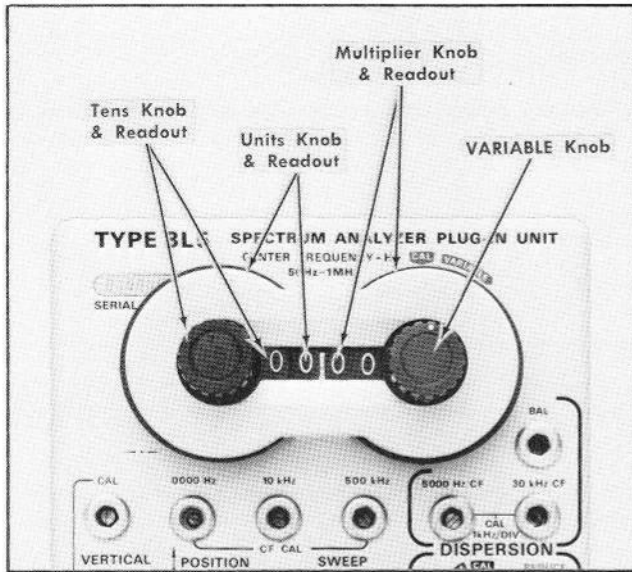

Fig. 2-6. CENTER FREQUENCY-Hz Selector.
e. Return the signal to center screen. Adjust the CENTER FREQUENCY selector above and below 100 kHz and note the signal shift across the screen. When selecting a center frequency below 100 kHz, switch the multiplier (right black knob; see Fig. 2-6) to the k readout position and the tens (small black knob) to 9. The tens selector will now shift the Type 3L5 center frequency below 100 kHz and the signal will move to the right side of the graticule.
h. Reduce the DISPERSION-Hz/DIV selector to 1 k. The REDUCED indicator should no longer be lit and the display should now contain a single 10 kHz signal near screen center. Change the center frequency by turning the units knob (large knob behind the tens knob; see Fig. 2-6). Note that the 10 kHz signal now shifts in 1 kHz steps as the units knob is switched through its range.
The center frequency of the displayed spectrum is selected by three rotary switches and a variable potentiometer. These are grouped for front panel readout as shown in Fig. 2-6. The following precautions should be observed when setting these controls: